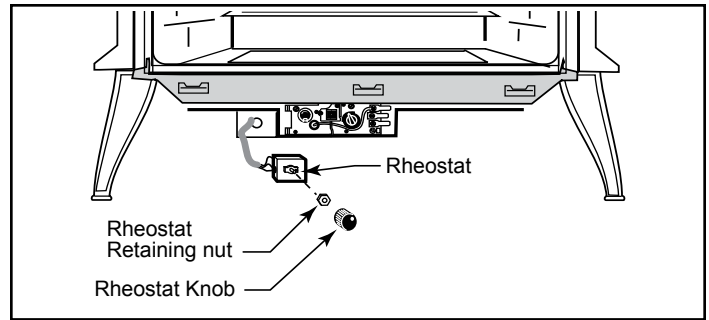

Figure 64 - Attach fan rheostat.
8. After sliding the firebox in place, the rheostat control switch attaches to the left side of the valve bracket at the front of the stove. (Figure 64)